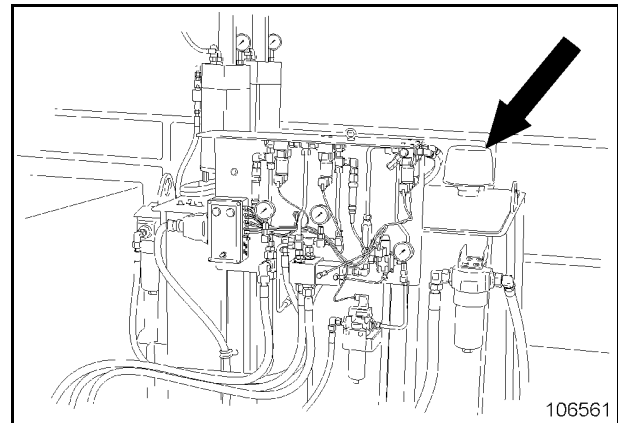

Fig. 3-142:
Fill up the grease container through the service station (Fig. 3-142:).
- Switch on the display system with toggle switch (23, Fig. 3-142:), lamp (22) lights up.
- Unscrew the cap of the express coupling (11).
- When the grease container is full, the monitoring lamp (24) lights up.